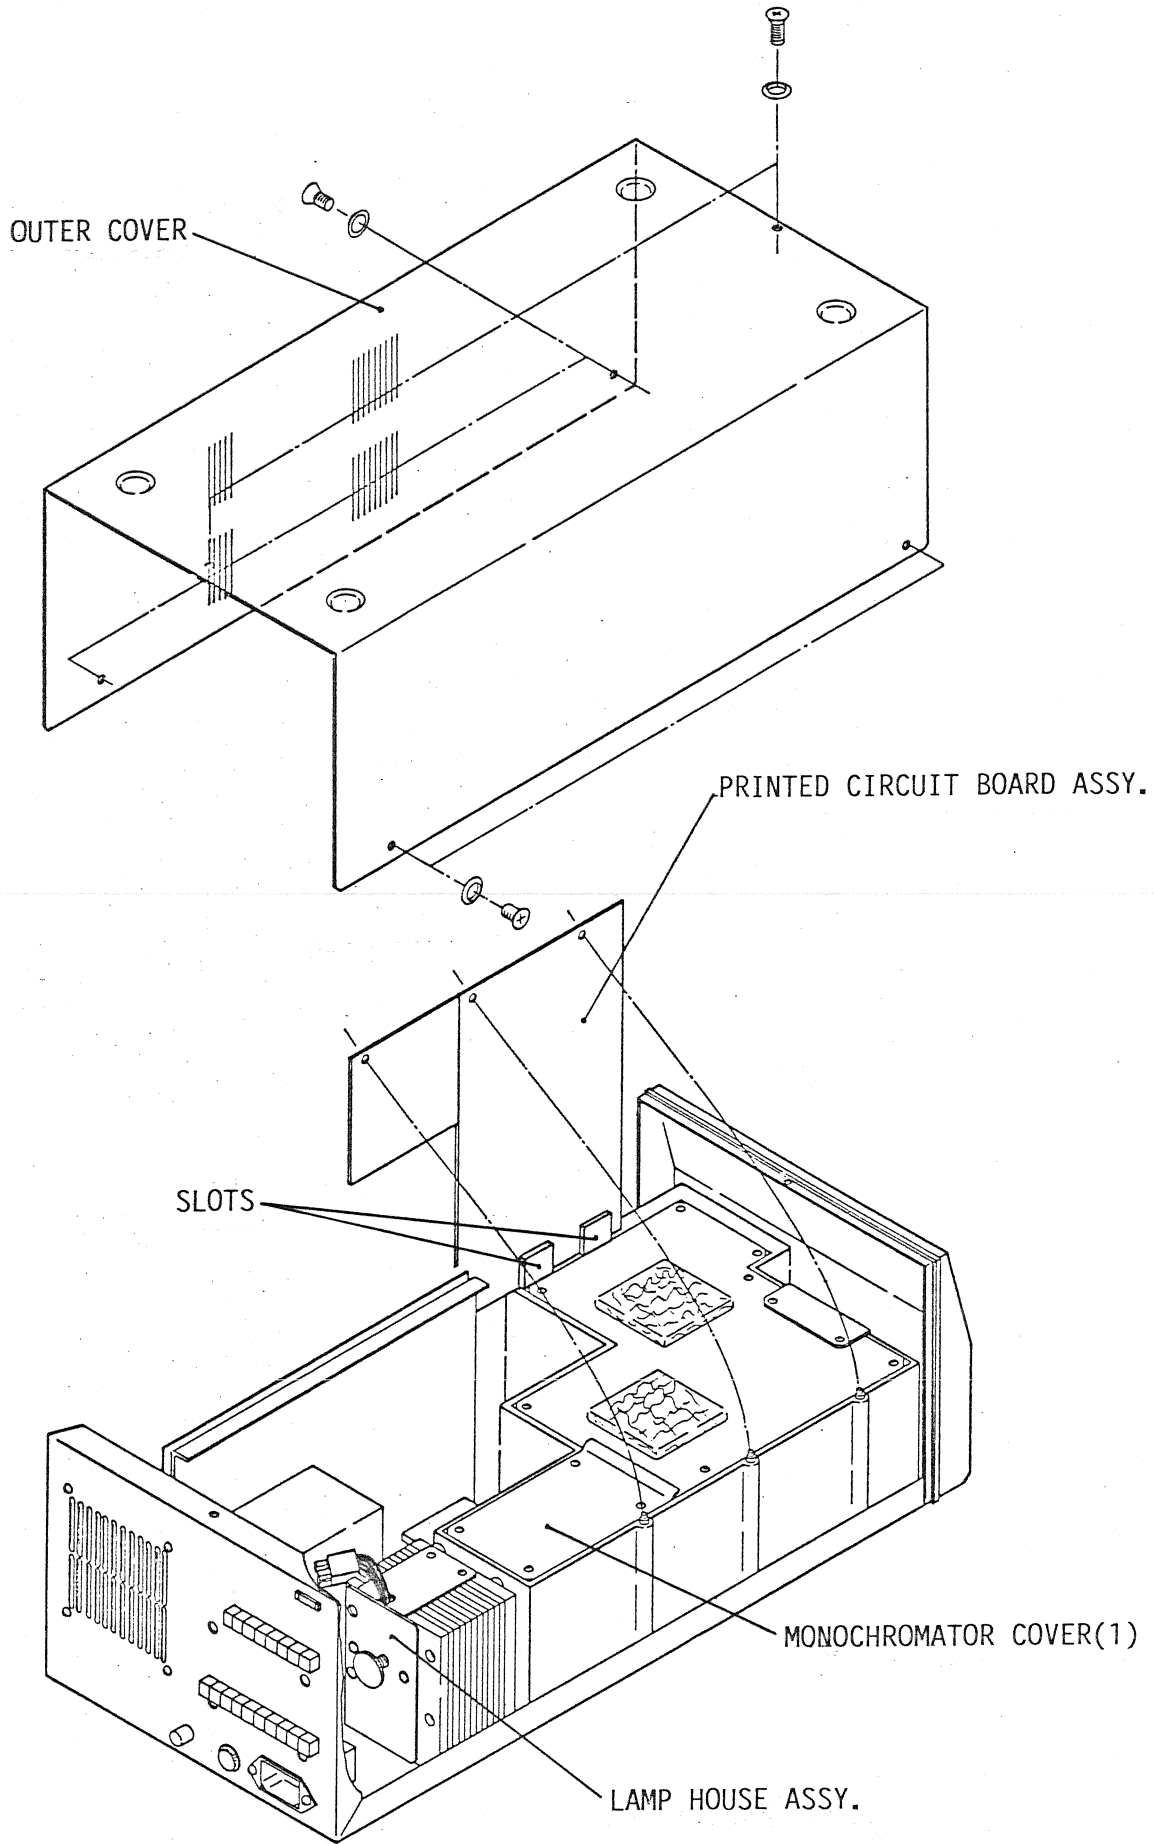

Fig. 10-1 Inside Cabinet View
- 3) Remove the outer cover from the cabinet, referring to Fig. 10-1.
- 4) Turn the printed circuit boards up and place them upright by inserting their lower edges into slots on the top of the optical module as shown in Fig. 10-1.
- 1) Remove the monochromator cover (1), referring to Fig.10-1.
- 15) Re-place the printed circuit boards in position, referring to Fig. 10-1.
- 16) Re-place the outer cover of the cabinet, referring to Fig. 10-1.